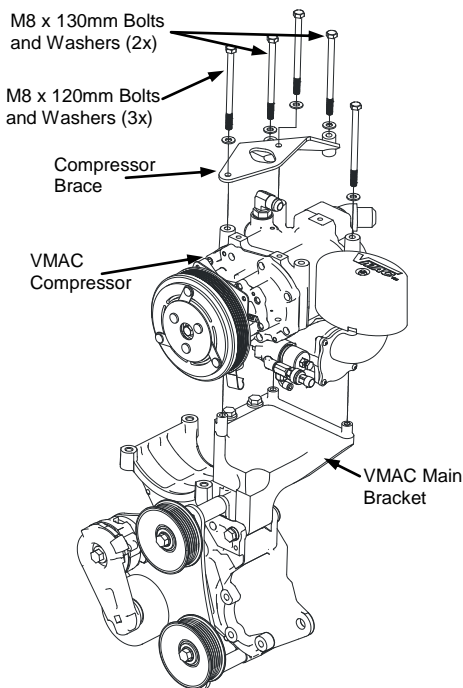

Figure 5.4
- ☐ Install the compressor and brace as shown with supplied fasteners. Apply loctite and torque to specifications. Ensure that any wire bundles are repositioned and not pinched underneath the compressor or bracket. (Figure 5.4)